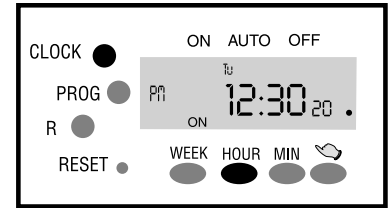

Figure 5
- 1.1 Press **CLOCK** and **HOUR** at the same time to set hour (See Figure 5).